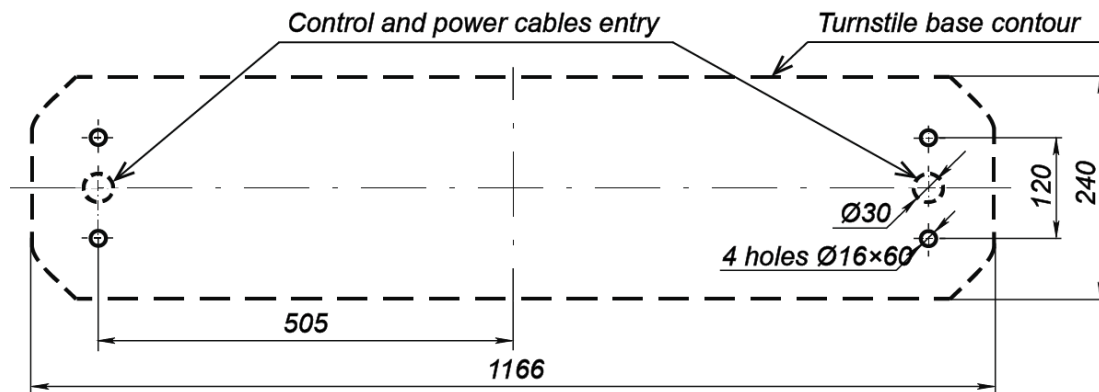

Figure 13. Marking layout for the TTD-08A turnstile housing installation¹
3. Drill holes for anchor sleeves in the floor to fix the turnstile housing in accordance with Fig. 13.